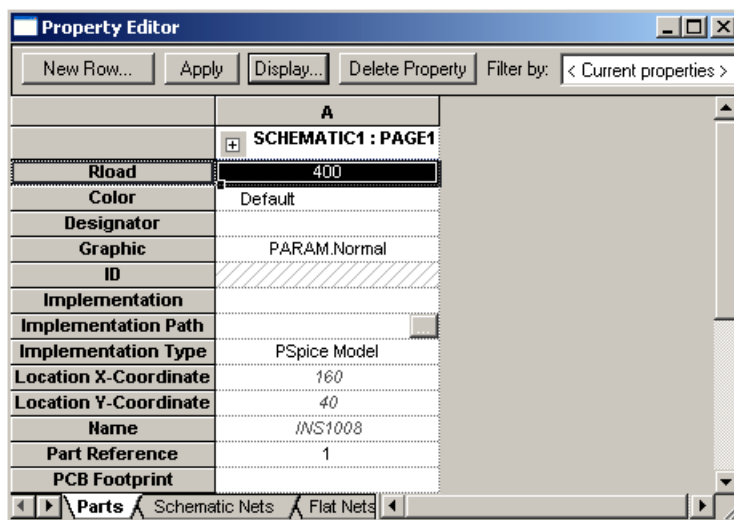

Figure 19. Property editor for a parameter block. A new parameter Rload has been added with a default value of 400.
- Double-click the PARAM block or right-click it and choose the **Edit Properties...** contextual menu item. This brings up the Property Editor or spreadsheet for the component, shown in figure 19 on page 16. Sometimes it comes up as a row rather than a column, If this happens, right-click in the empty cell at the top left (to the left of A) and choose **Pivot**.